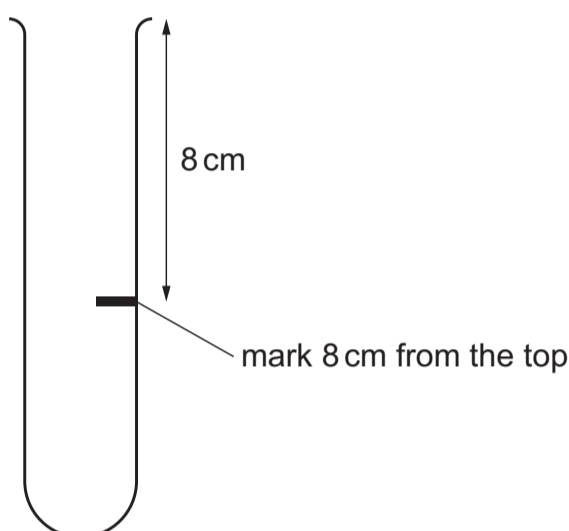

Fig. 1.1
step 1 Draw a mark 8 cm from the top of a large test-tube, as shown in Fig. 1.1.